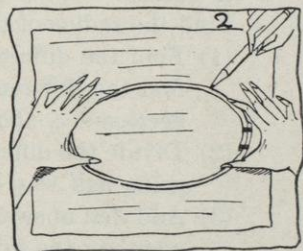

FIG. 2.
- (1) Put a clean piece of paper on the table.
- (2) Let some one hold the oval-shaped wire flat on the paper.
- (3) Trace around the outside of the wire with a pencil (see Figure 2).
- (4) Show your pattern to your teacher to see if the outline is good.